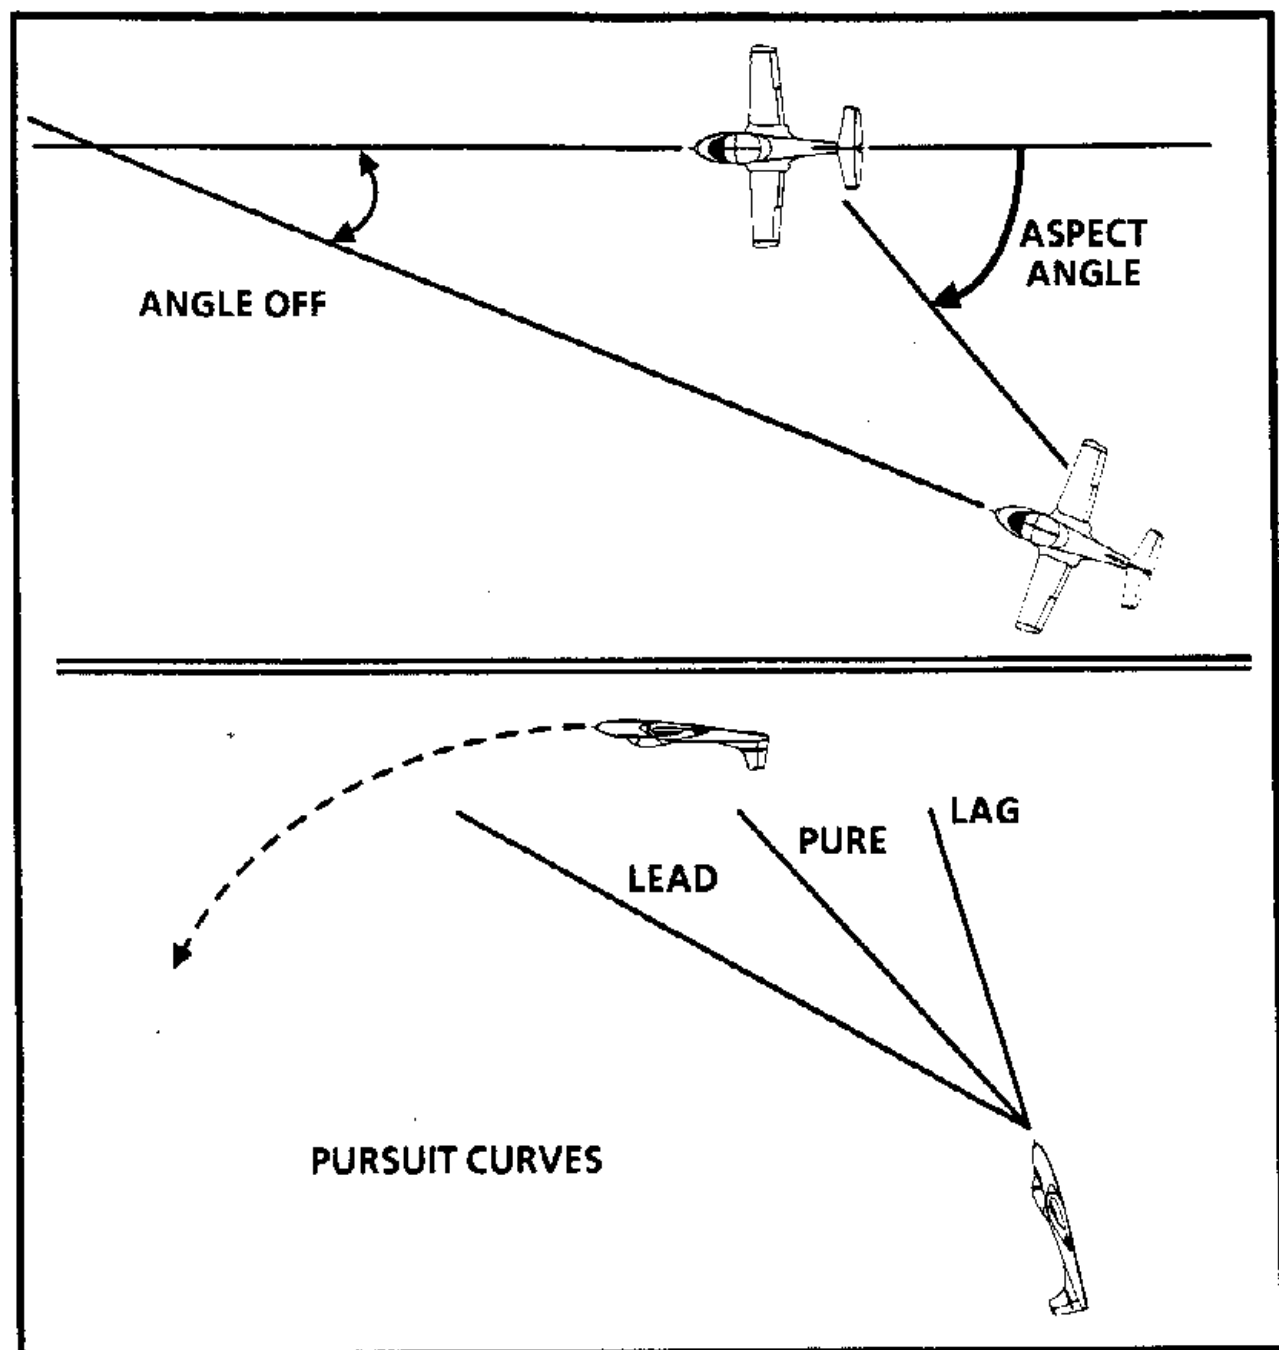

Figure 8.7. Maneuvering Fundamentals (Aspect Angle Versus Angle Off).
8.18.1.1. Angle Off. The relative nose position of two aircraft. The angular distance between the longitudinal axis of the wingman and the longitudinal axis of the leader. Sometimes referred to as heading crossing angle (HCA) (figure 8.7).
8.18.1.2. Aspect Angle. The relative position of the wingman to the leader without regard to the wingman's heading. The angle measured from the tail of lead to the position of the wingman. *It is not a clock position off of lead* (figure 8.7).
8.18.1.4. Lag Pursuit Curve. The path a wingman's aircraft will follow if it flies to an imaginary point behind lead (figure 8.7).
8.18.5. Lead Pursuit Curve. The path a wingman's aircraft will follow if it flies to an imaginary point in front of lead (figure 8.7).
8.18.1.8. Pure Pursuit Curve. The path a wingman's aircraft will follow if it flies directly at the lead aircraft (figure 8.7).